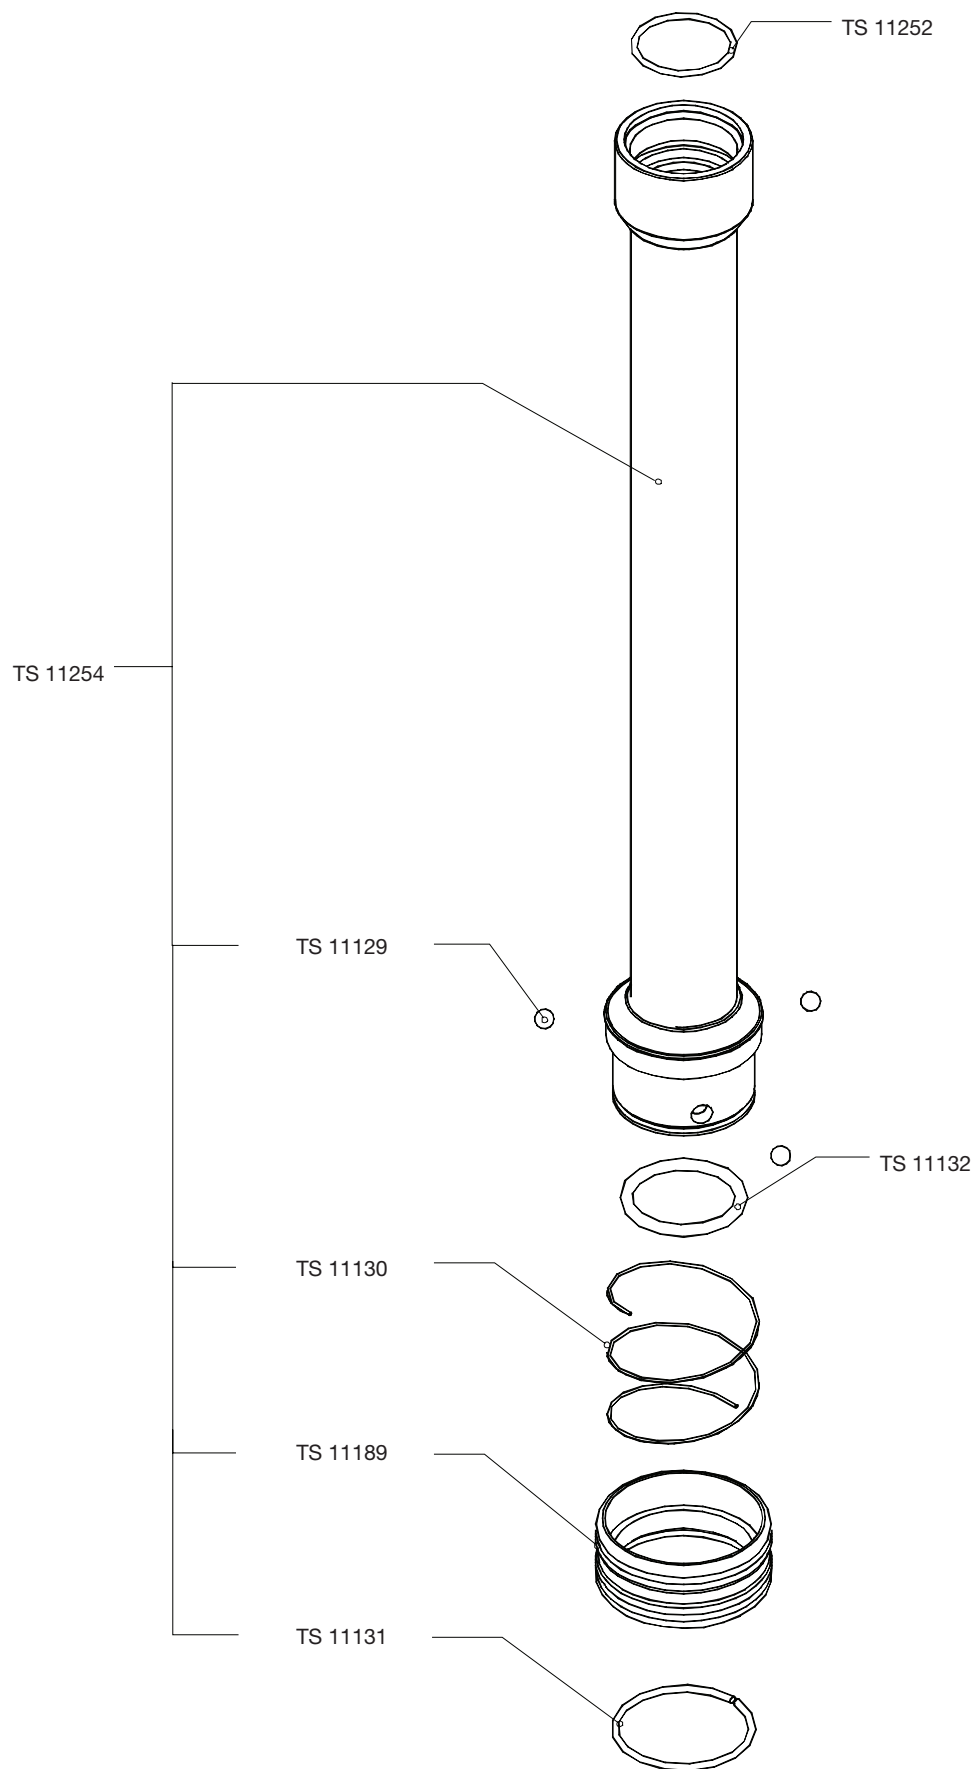

Figure 13-5: storage tube SS1-Q1 TS 10184, details
- Figure 13-5: storage tube SS1-Q1 TS 10184, details